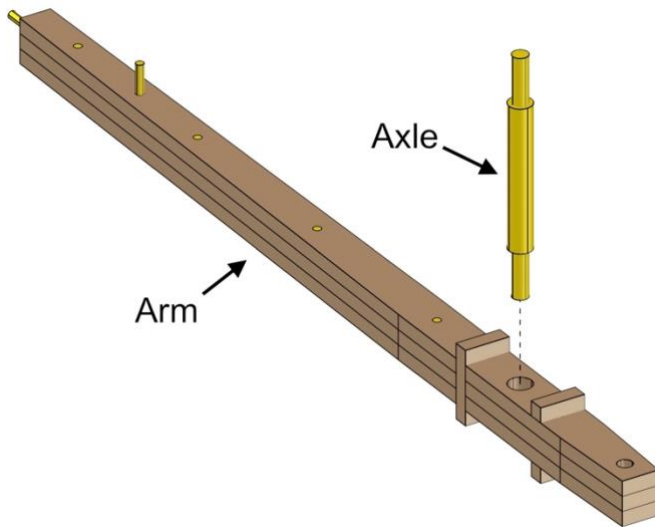

Fig. 67
- Align parts exactly as shown in *Fig. 67*.